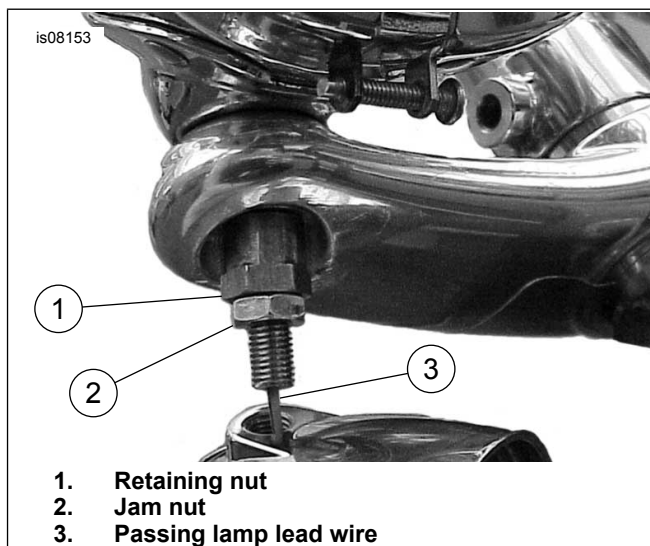

Figure 9. Install Retaining Nut and Jam Nut
7. See Figure 9. Route passing lamp lead wire through new retaining nut and install new retaining nut (P/N 68323- 01) to passing lamp threads. Snug retaining nut into place.